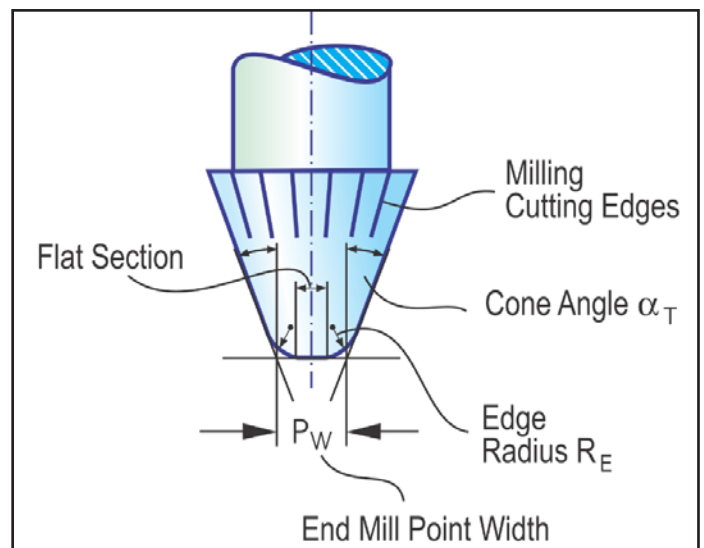

Figure 20 Conical end-mill with edge radius smaller than the fully rounded radius.
In the present case, the summary item 06 (Fig. 18) is 0.51 mm, which is smaller than the calculated maximum possible radius for R_E . In this case, $R_E = 0.51$ is the correct edge radius for the end-mill. The end-mill design, according to the graphic (Fig. 20), will have a flat spot at the tip, connecting the two edge radii in the cross-sectional drawing (which will not form a fully rounded end-mill tip).